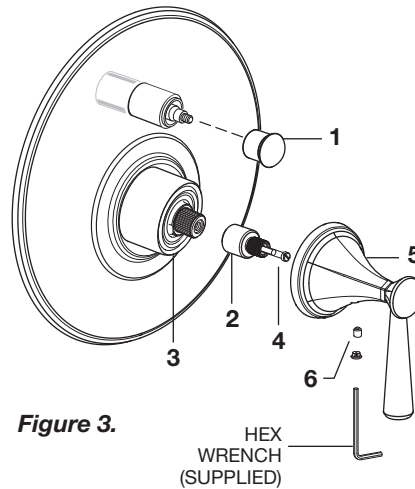

Figure 3.
- **Figure 3.** Thread DIVERTER KNOB (1) onto diverter stem.
- Install HANDLE ADAPTER (2) onto VALVE STEM (3) and secure with SCREW (4).
- Align LEVER HANDLE (5) so lever is facing down and tighten SET SCREW (6) with hex wrench to secure LEVER HANDLE (5).